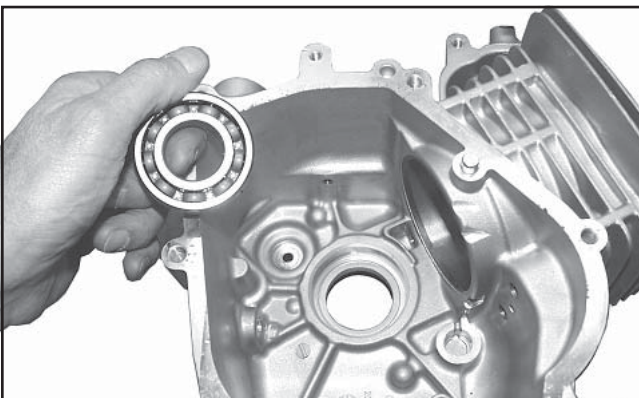

Figure 9-65. Removing Crankcase Crankshaft Bearing.
2. Using a suitable press, push the crankshaft bearing from the crankcase. See Figure 9-65.